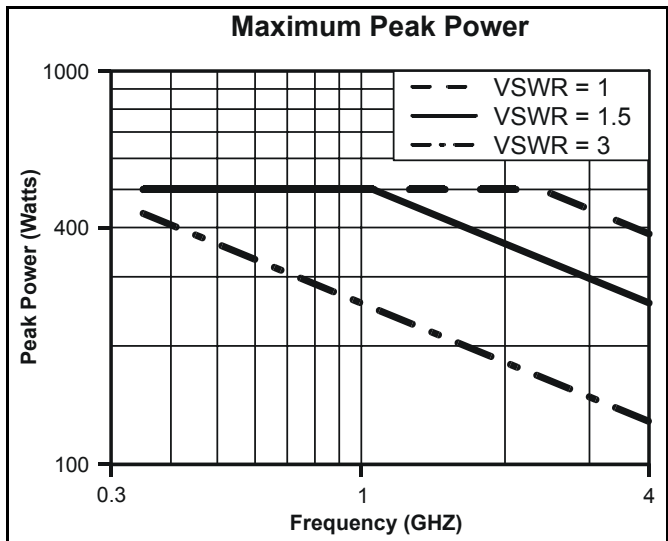

Figure 7 Max. Peak Power
Maximum Power	See Figure 7 on page 34
* Max. power depends on frequency and system VSWR. See Figure 7 on page 34